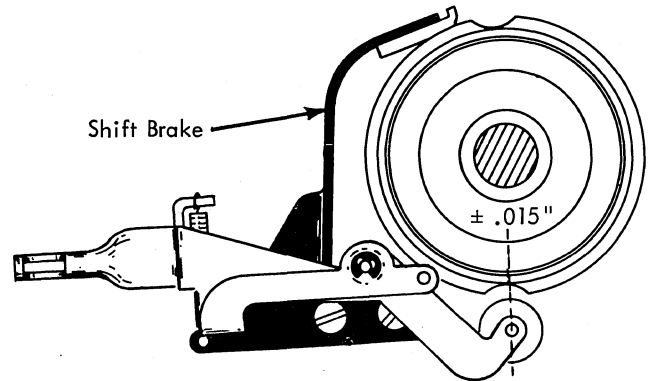

FIGURE 31. Shift Cam Brake Adjustment
4. Shift Cam Brake (Fig. 31) - The shift cam brake shall be so adjusted, that the shift cam will stop in the center of the detent position $\pm .015$ " when the detent roller is held away from the cam during the shift from upper case to lower case.